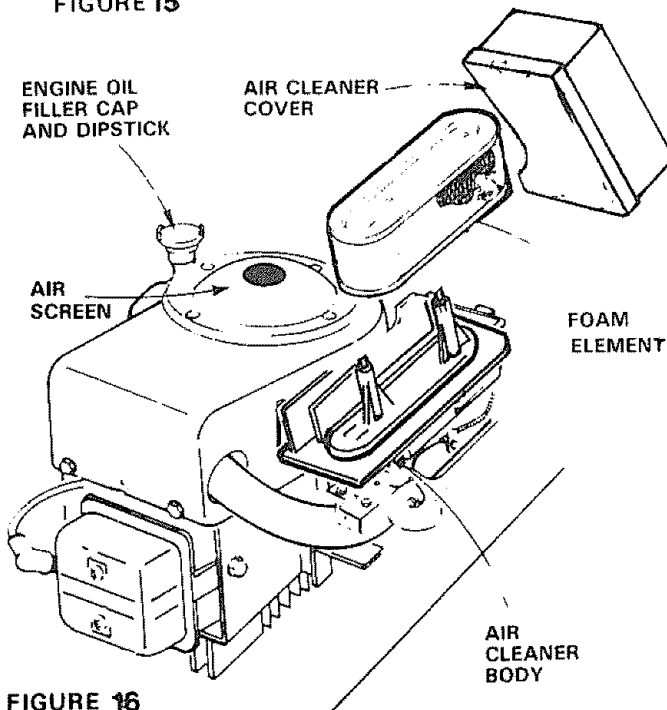
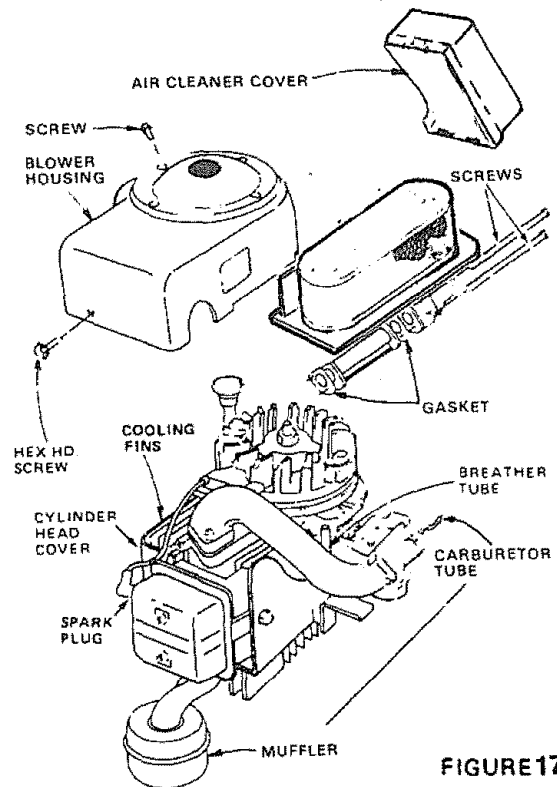

FIGURE 16
FIGURE 17
## 7. Clean Air Cleaner Element (Fig. 16)
Air screen and cooling fins (Figs. 16 and 17) must be kept free of dirt and chaff to prevent engine damage from overheating. Clean with a wire brush or compressed air to remove dirt and dried gum fibers.
- Remove air cleaner cover (Fig. 16).
- Remove 3 screws securing air cleaner body (Figs. 16 and 17) and remove. (Cover carburetor to prevent entry of dirt.)
- Remove 3 screws from blower housing and lift housing off engine (Fig. 17).
- Use compressed air or stiff bristle brush to thoroughly clean engine cooling fins (Fig. 17) and air screen (Fig. 16).
- Be certain carburetor tube, breather tube, and gaskets are in place (Fig. 17).